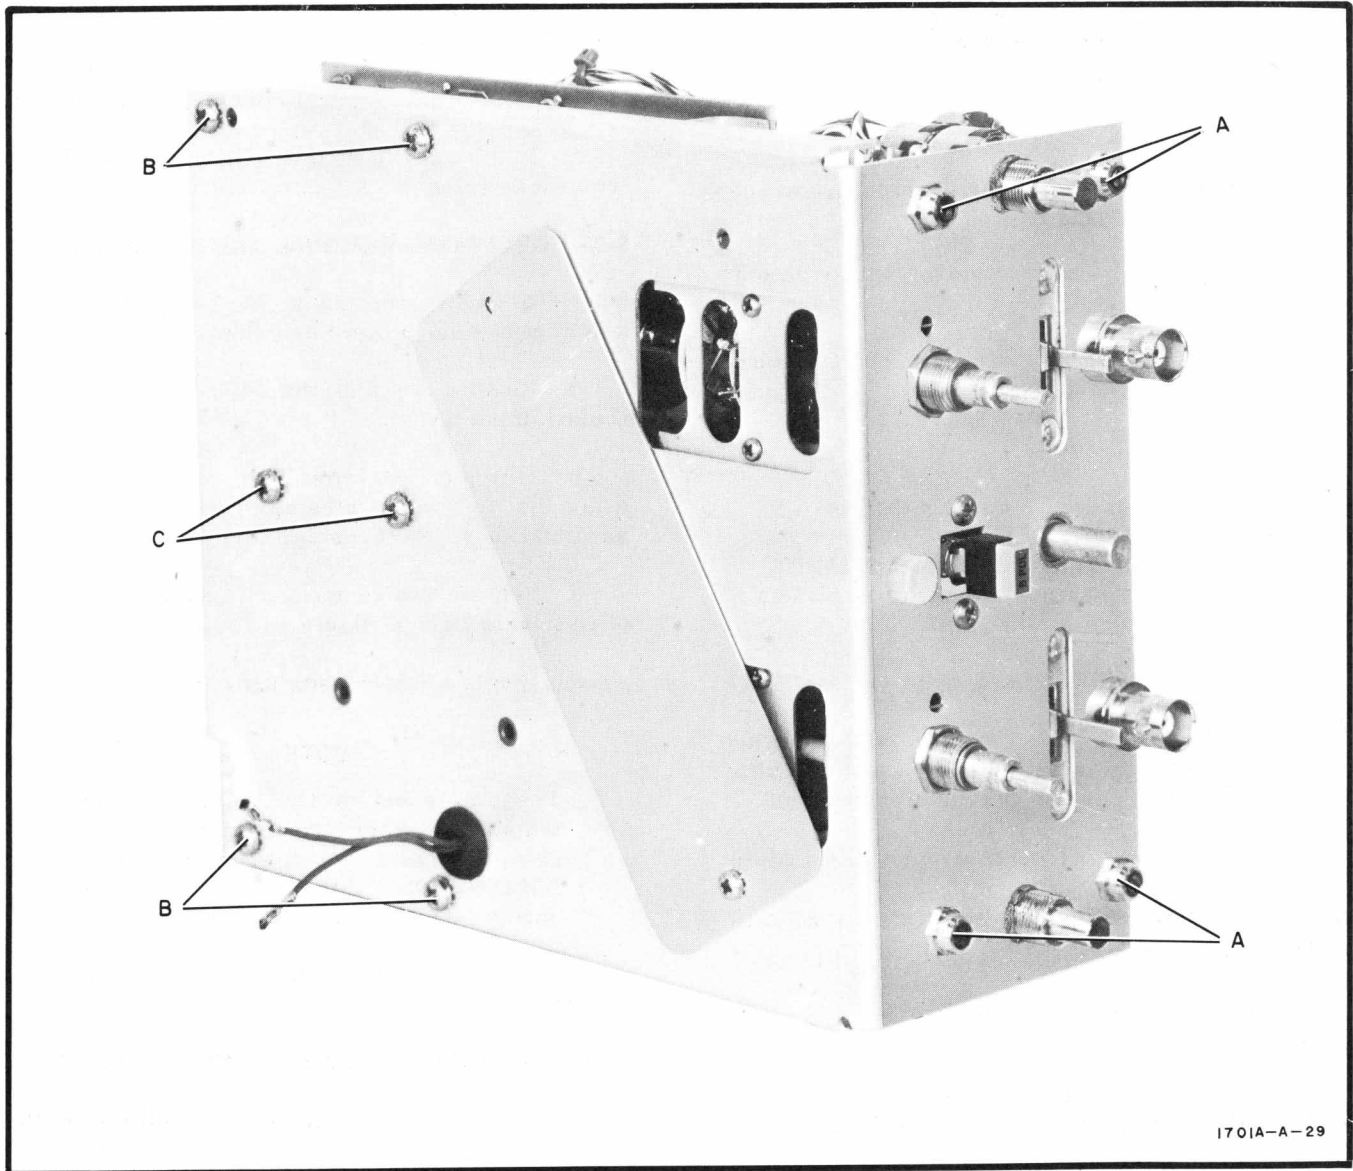

Figure 8-1. Vertical Module Mechanical Parts Removal
- c. Remove two center screws from bottom side of vertical module (C, figure 8-1).
- b. Remove locking nuts (A, figure 8-1).
- c. Remove six screws on bottom side of vertical amplifier module (B and C, figure 8-1).